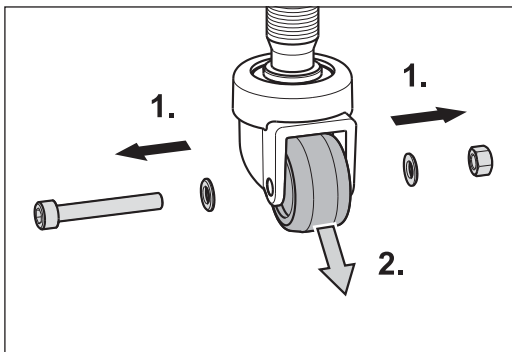

Fig. 61 Remove the screw, washer and nut (1.) and remove the wheel from the wheel fork (2.).
- 3 Remove the screw with the washer and nut from the wheel fork (Fig. 61, 1.).
- 4 Remove the wheel from the wheel fork (Fig. 61, 2.).